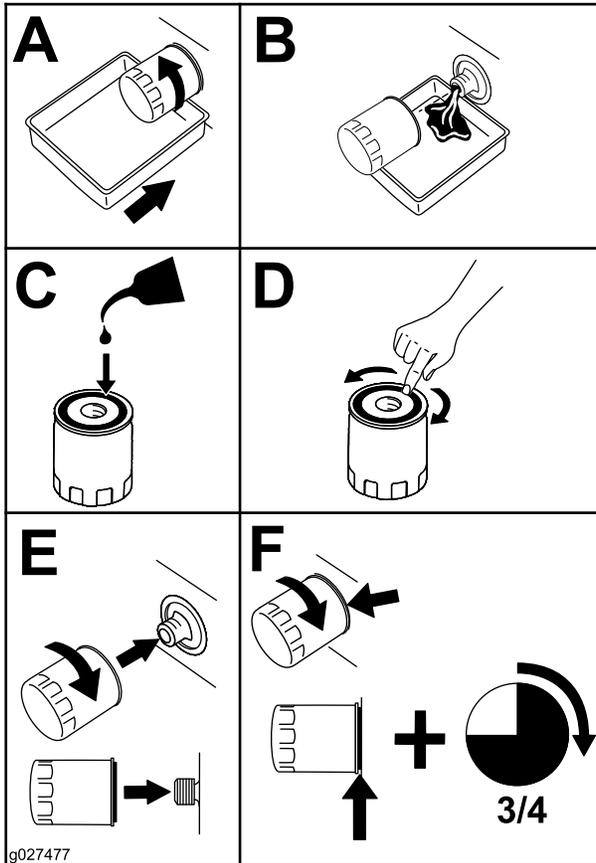

Figure 61
2. Change the engine-oil filter (Figure 61).